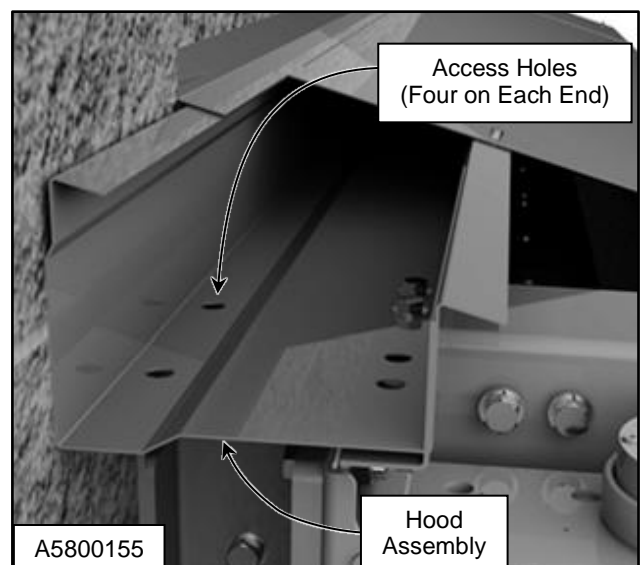

Figure 25
4. If the optional hood assembly is installed, route all cables and wires through prefabricated access holes. (See Figure 25)